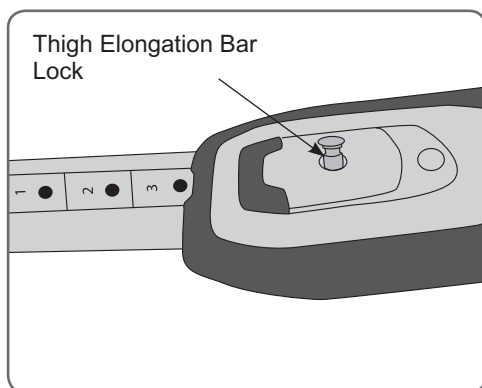

Figure 10-5: Inserting the Thigh elongation bar lock.
4. Reinsert the Thigh elongation bar lock in the elongation bar. See Figure 10-5.